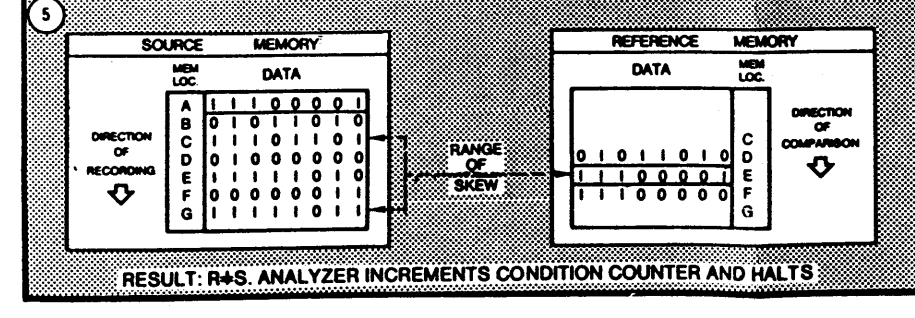

FIGURE 5-27B. COMPARE MENU OPERATION
5.3.5.7 Overall Operation. Figure 5-27A shows the overall internal operation of the COMPARE MENU. This figure shows all cases for a "COUNT IF" and "HALT IF" compare condition for Bit-to-Bit and Byte-to-Byte comparison, and Cycle Redundancy Check. Figure 5-27B, a fold-out figure on the next page, shows the operations keyed to circled numbers in the flowcharts in Figure 5-27A.